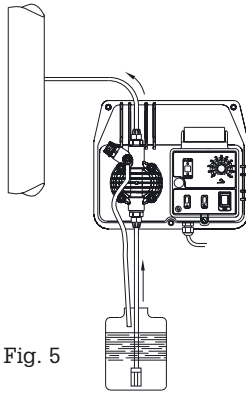
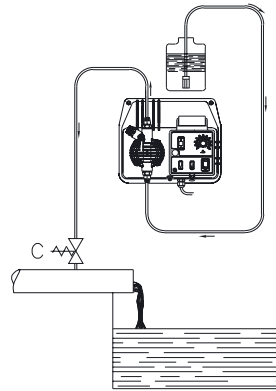

Fig. 5
Fig. 6
- c.- Locate the pump as shown in fig. 5 bearing in mind that it may be installed either below or above the level of the liquid to be dosed, though the level difference should not exceed 2 meters. When the process plant in which the pump is installed is operating at atmospheric pressure (no back pressure) and the chemical tank is situated above the plant (Fig. 6), the condition of the injection valve should be checked at regular intervals, because excessive wear and tear could cause additive to drip into the plant even when the pump is shut down. If the problem persists, install a properly calibrate **counter-pressure valve (C)** between injection point and the valve. In the case of liquids that generate aggressive vapors, do not install the pump above the storage tank unless the latter is hermetically sealed.